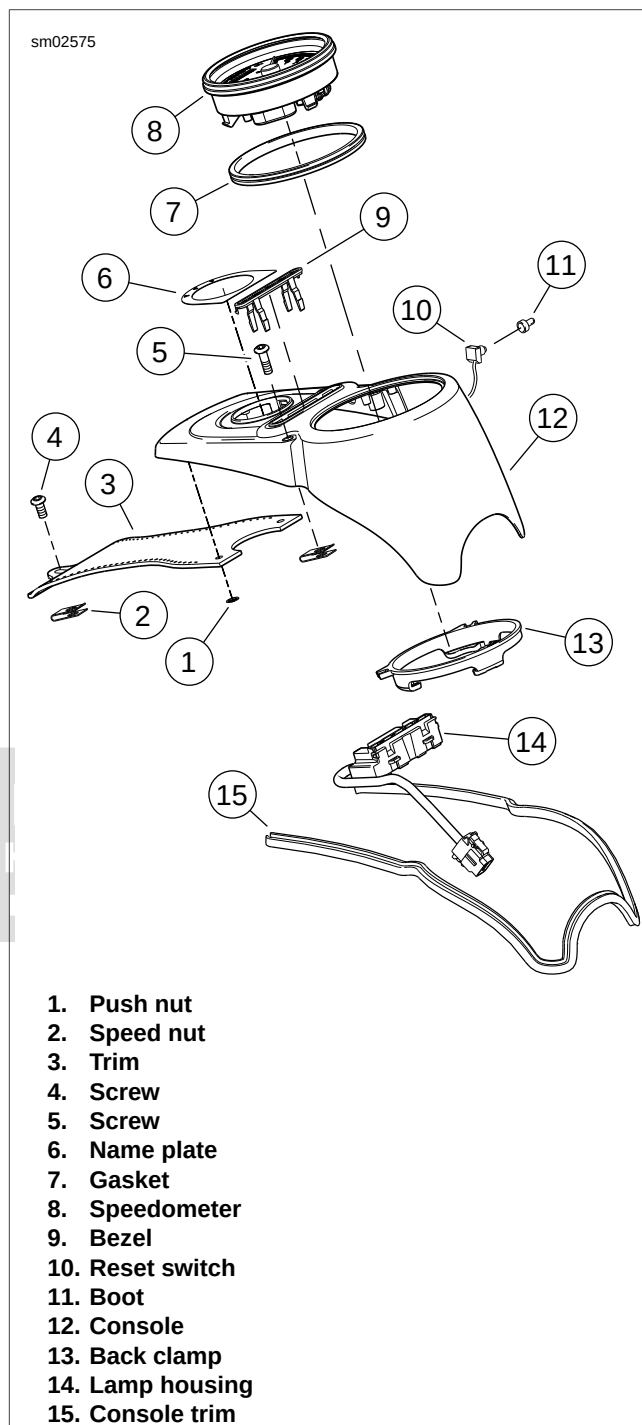

Figure 7-56. Speedometer: FXDC/FXDF
1. See Figure 7-56. Remove screw (4) securing trim to fuel tank. Remove screws (5) securing console to top plate.
3. Depress connector tab and disconnect 12-place harness connector [39] from speedometer (8) under console.
4. Unscrew the rubber boot (11) from the odometer reset switch (10) on the left side of the console.
6. Pry between three tabs and speedometer with a screwdriver to raise and release back clamp (13) from speedometer. Remove back clamp from speedometer.
7. Remove speedometer from console (12).
8. Remove gasket (7) from speedometer.
1. See Figure 7-56. Install gasket (7) to speedometer (8).
2. Position speedometer in console (12).
3. Press on back clamp (13) until three tabs engage on back of speedometer.
4. Insert odometer reset switch (10) through hole in console and install rubber boot (11).
6. Install console to fuel tank with screws (5). Tighten to 18-24 **in-lbs** (2.0-2.7 Nm).
7. Install screw (4) securing fuel tank trim (3) to fuel tank. Tighten to 18-24 **in-lbs** (2.03-2.71 Nm).